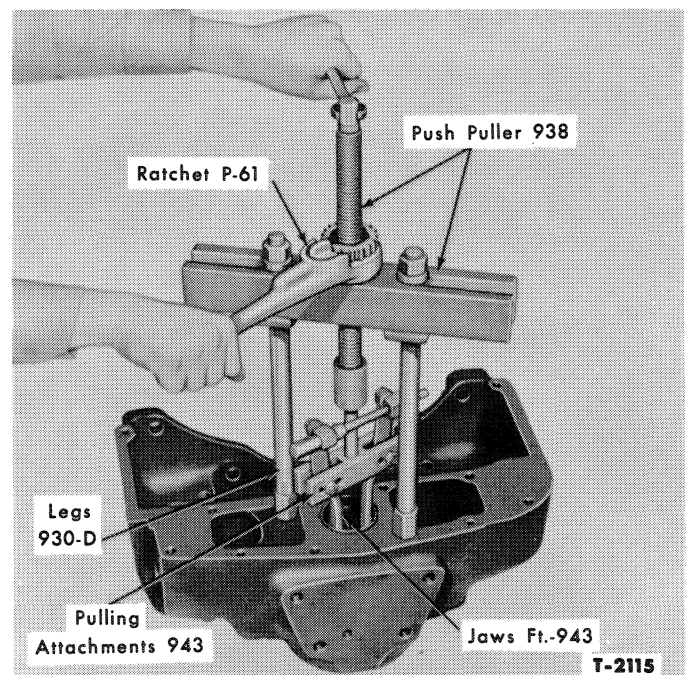

Figure 17—Pulling Pinion Shaft Upper Bearing Cup
8. Using the special tools shown in Figures 17 and 18, remove the small bearing cup from the top of the pinion shaft bore and the large bearing cup from the bottom of the pinion shaft bore.